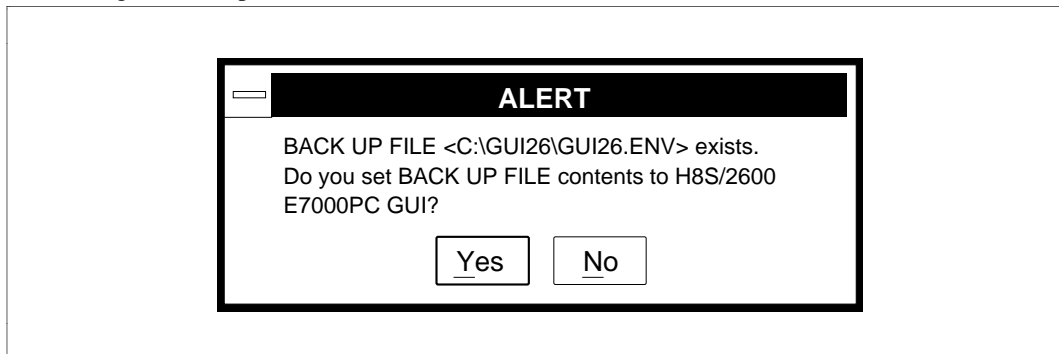

Figure 2-13 Backup File Load Confirmation Message Box
- (5) When a backup file exists, the message box shown in figure 2-13 is displayed to confirm whether to load the operating environment backup file. To load the operating environment backup file previously saved, click the <Yes> button. To initiate the GUI-2600 without loading the backup file, click the <No> button.